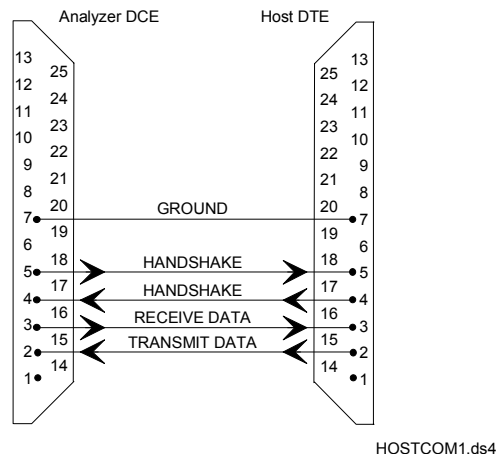

Figure 5-33: Straight-through Cable with Full Handshake
*NOTE: This is the same cable that is used for IMx® diagnostics. (Figure 5-33.)*